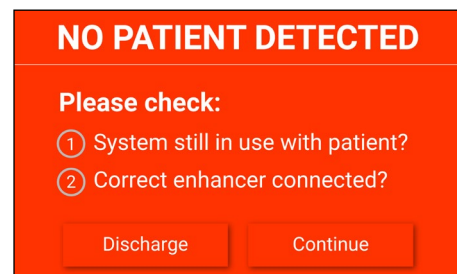

Figure 26. Patient not detected instruction
1. The Guardian 2 System will alert the user if after a period of time a patient is not detected on the enhancer. An auditory alert will occur for three (3) minutes.
2. Follow the instructions on the screen to address the alert. (Fig. 26)